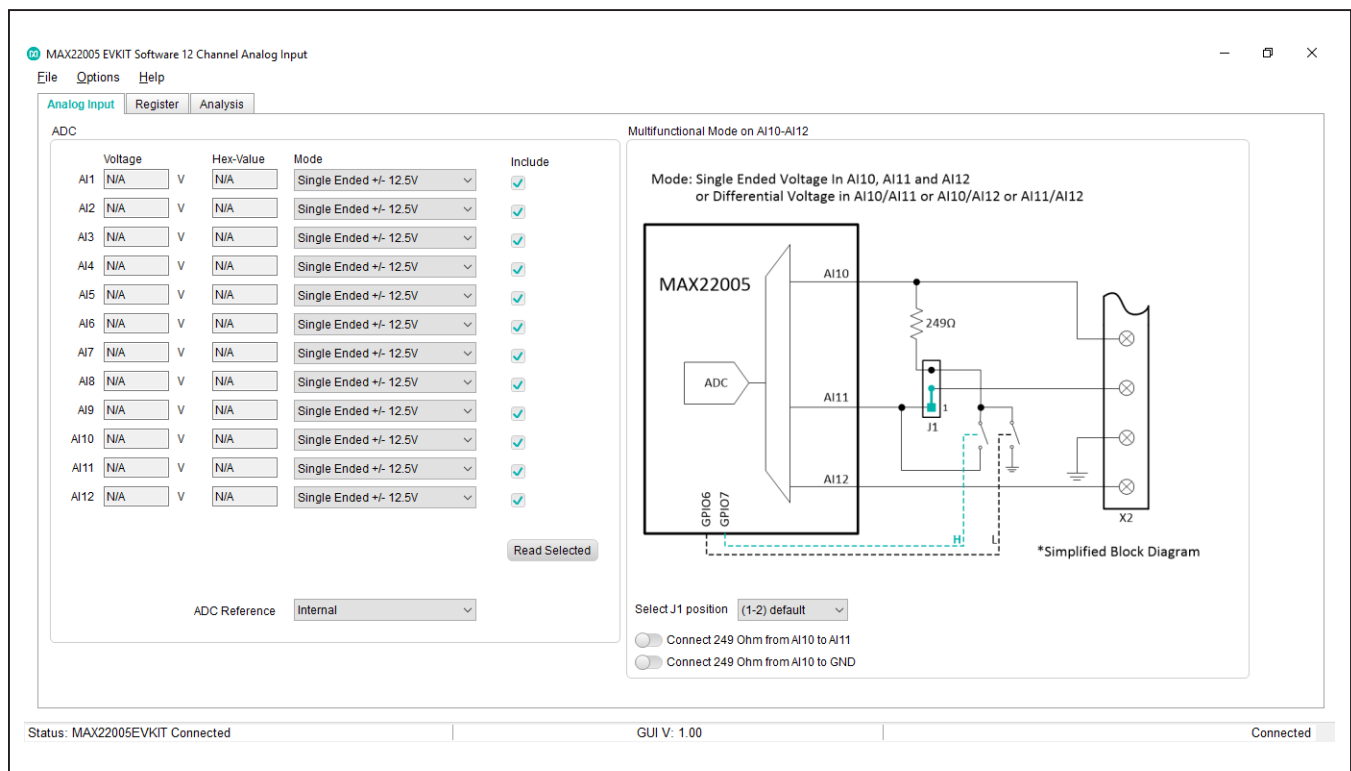

Figure 1. MAX22005 EV Kit GUI Analog Input Tab
- 6) Start the EV kit software by opening the icon in the **Start | Programs | Maxim Integrated** menu. The EV kit software **Analog Input** tab appears as shown in Figure 1.
The GUI sets all the channels into single-ended AIVM single-cycle mode with the conversion rate of 1sps by default as shown in Figure 1. The GUI is reading all selected input channels one-by-one when the user presses the **Read All** button.